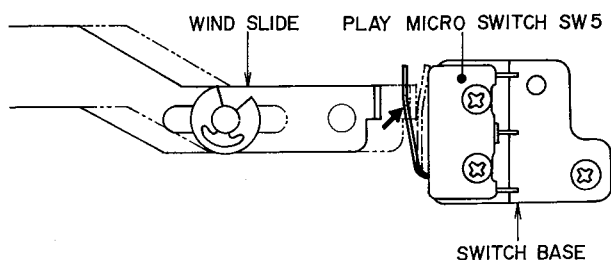

Fig. 10
8. PLAY MICRO SWITCH OPERATION ADJUSTMENT (Refer to Fig. 10 and 11)
- 1) Adjust by bending the actuator (phosphor bronze plate) as indicated by the arrow mark in the Fig. 10 so that when the machine is set to F.FWD or RWD mode, the wind slide pushes play micro switch properly.
- 2) Because at playback mode, this micro switch is pushed by pause slide (3), confirm that the micro switch is perfectly turned ON at playback mode also.